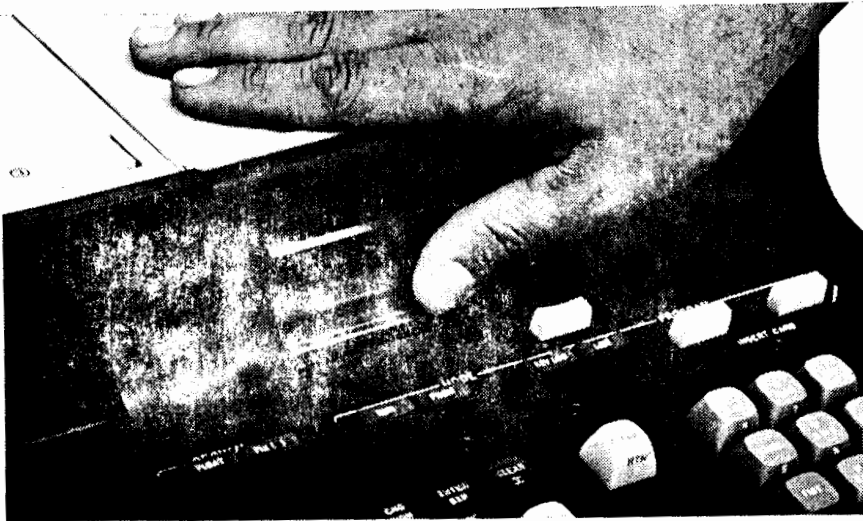

Figure 2-5. Installing the Printer Window
19. Remove the opaque printer window and install the clear printer window. The window is removed by carefully sliding it up and forward (see Figure 2-5).